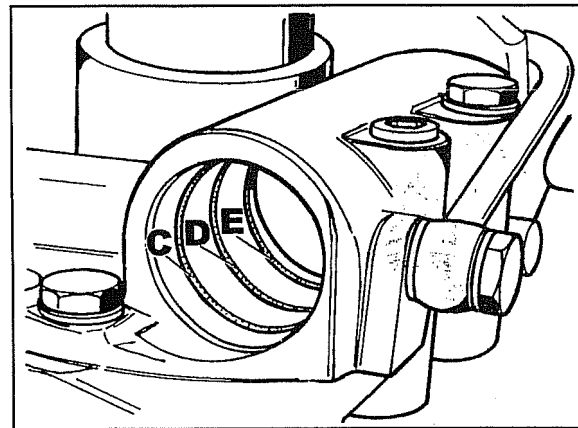

Fig. 81
- Before fitting the new rings **C-D-E** (Fig. 81) check to make sure that their seatings in the cylinder are without burrs that could damage the rings when installed and without scoring that could be the source of leaks.